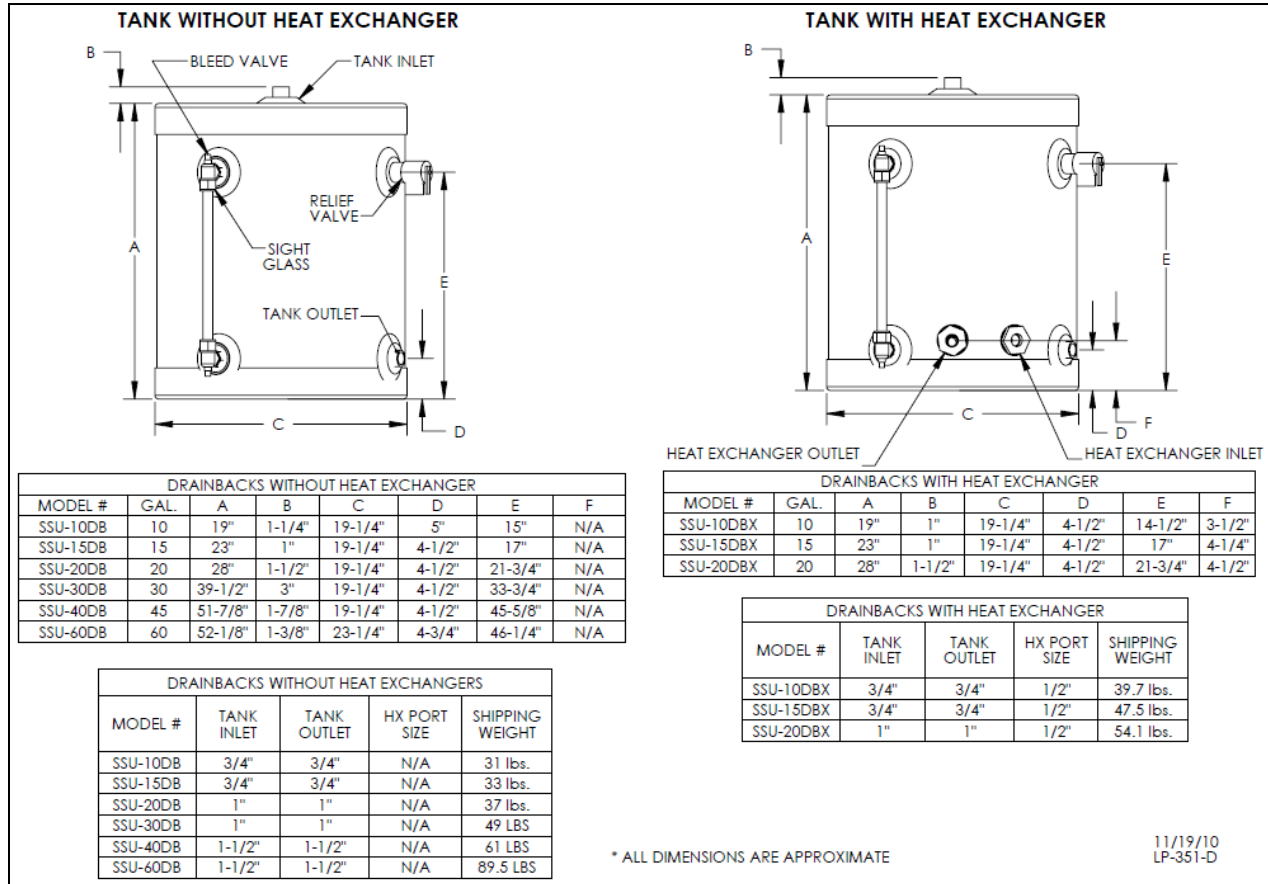

Figure 1 – Drain Back Tank Specifications and Dimensions
2. Open fill valve and the bleed valve on the drain back tank sight glass (see Specification diagram for location, Figure 1).